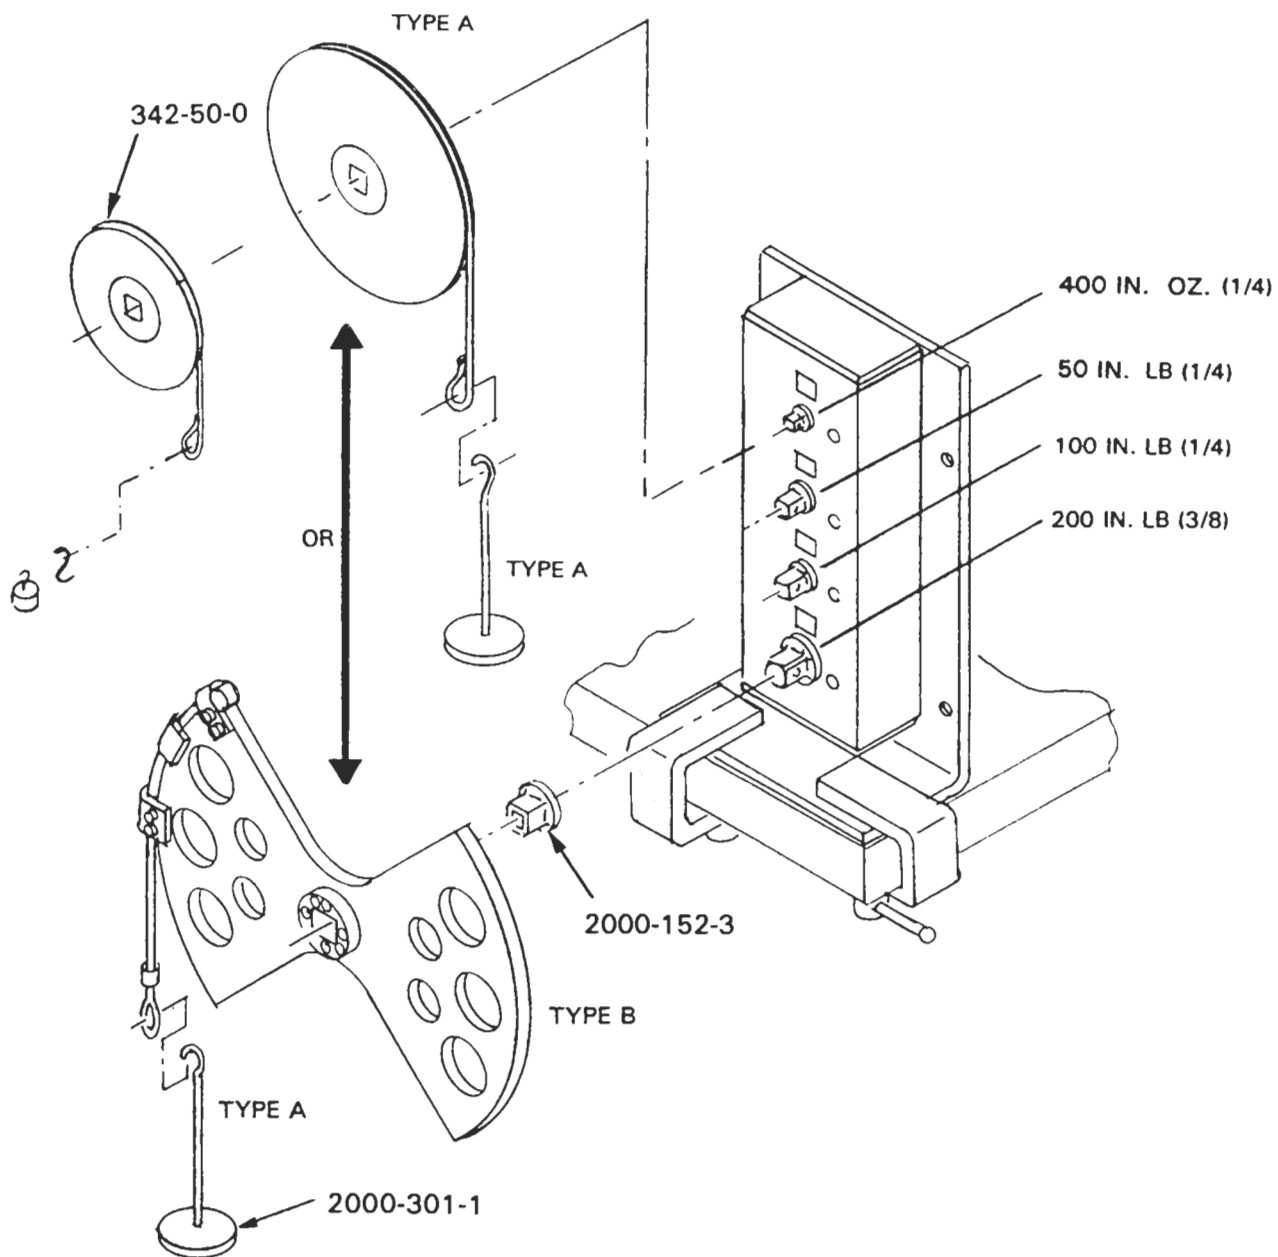

Figure 3-10. Low Torque Station Accuracy Check Setup
- a. Refer to Table 3-4 to determine which calibration arm, hanger and weights are to be used in the setup as shown in Figure 3-10.